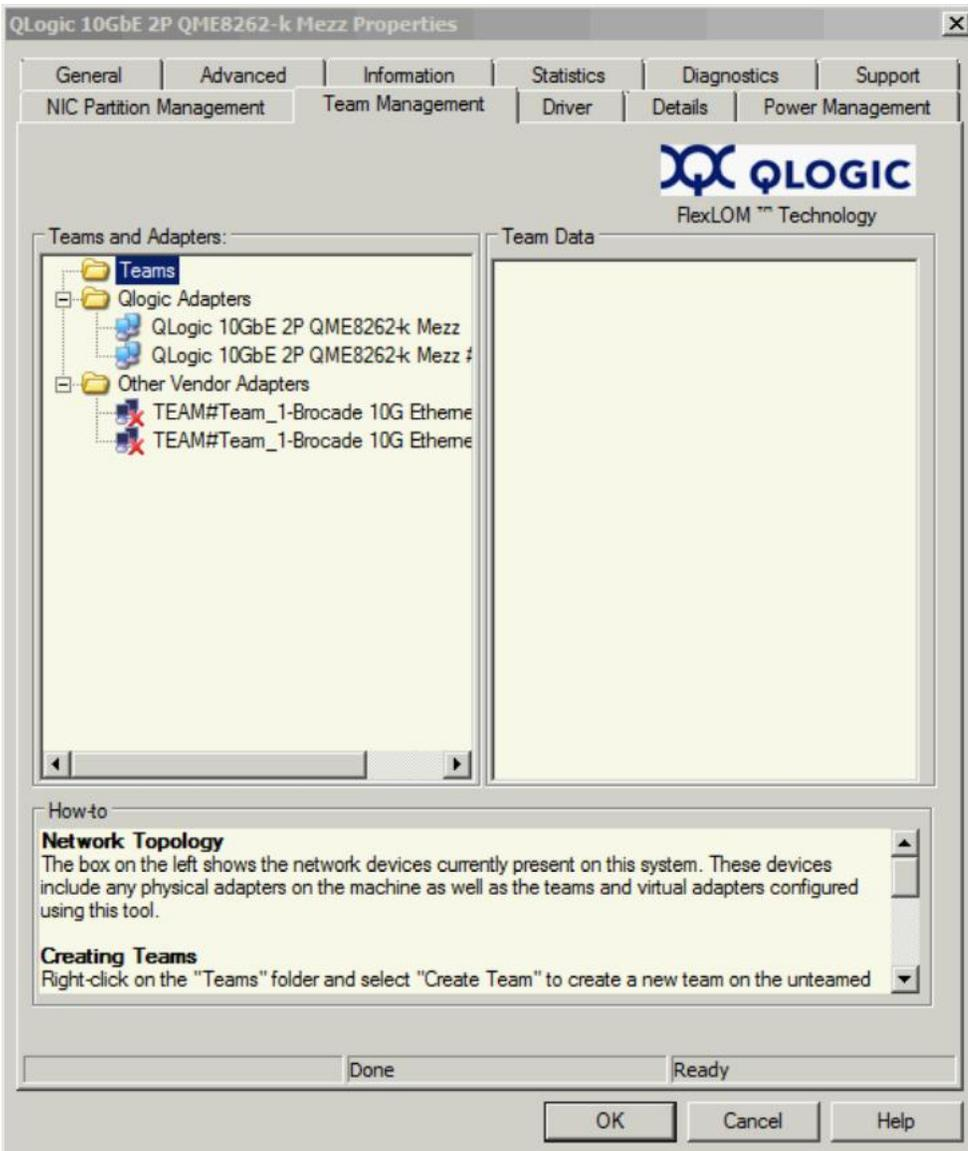

Figure 52 'Team Management' tab of port properties
- To create a NIC team on the virtual NIC ports navigate to **Control Pane > Network and Internet > Network and Sharing Center > Change adapter settings** and right click one of the ports you wish to put in a NIC team. Click **Properties**. Click the **Configure** button. Next, click the **Team Management** tab as shown in Figure 52.